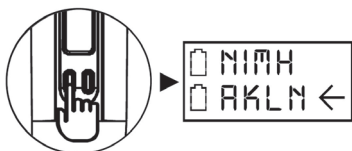

Figure 11
1. Use MENU button to go to the BATTERY TYPE page (Fig 11).